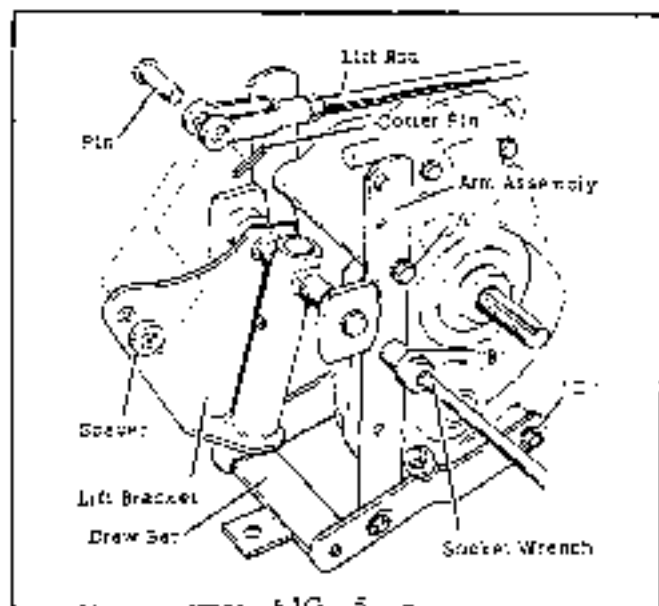

FIG. 5
- b. Mount the drawbar, rear lift bracket, and arm assembly to the transmission as shown in Fig. 5 and fasten with hex capscrews (3 on each side) "A", "B", & "C".